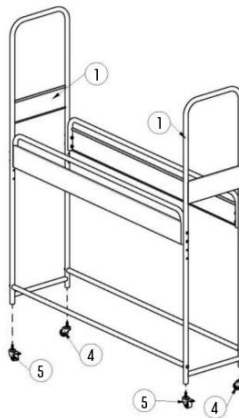

Figure 3
3. Install casters (4) and (5) (Figure 3).